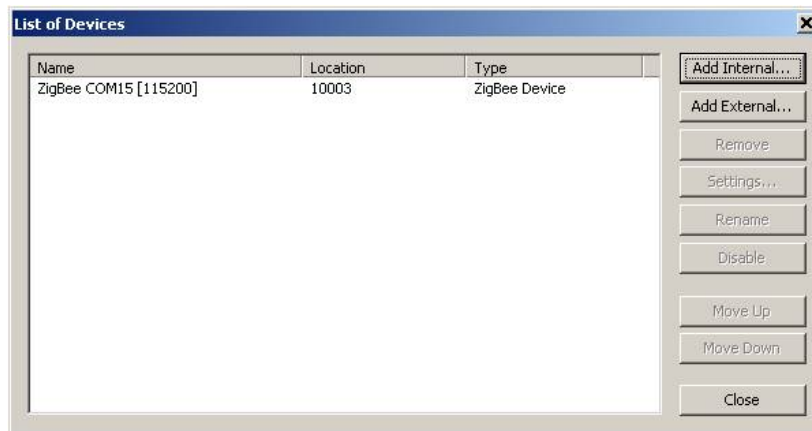
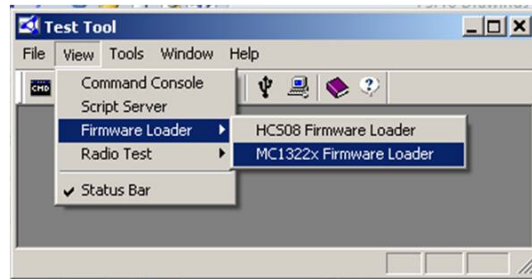
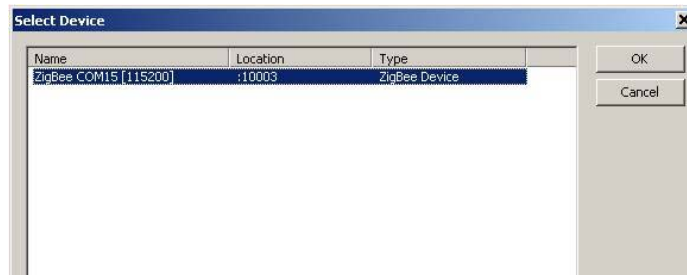
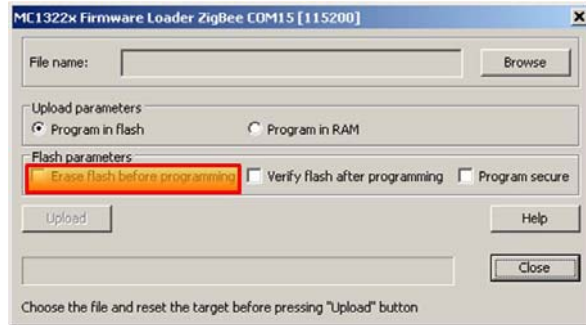

Figure 33 – Screen, FSTT – Comm List of Devices
Figure 35 – Screen, FSTT – Firmware Loader
Figure 36 – Screen, FSTT – Device Selection
Figure 37 – Screen, FSTT – Firmware Loader Opening
- 3) Click on the **'Tools'** menu, and click on the **'Communication Settings'** in the Pop-up as shown in Figure 32. An empty version of the screen in Figure 33 should appear.
- 5) Choose the '**COM Port**' to which the evaluation board is connected, change the '**Baudrate**' to '**115200**' and click '**OK**'. The chosen evaluation board will be displayed on the screen as in Figure 33. Click '**Close**'.
- 6) As shown in Figure 35, click on the '**View**' menu, click on the '**Firmware Loader**' and '**MC1322x Firmware Loader**' in the Pop-ups. The screen in Figure 36 will appear. Select the device (defined in Figure 33) and click '**OK**'. The screen in Figure 37 will be displayed.